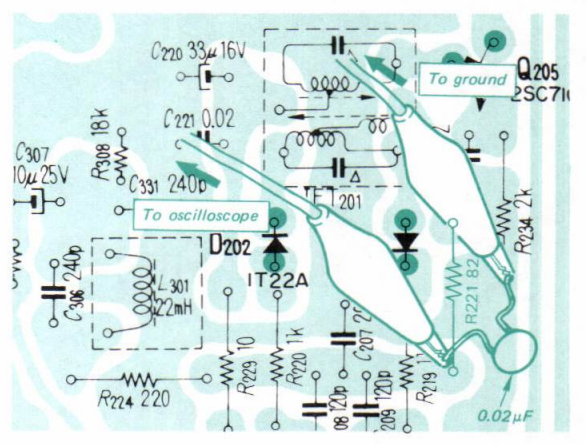

Fig. 3-3. Fm discriminator output connection
1. Connect the input cable of the oscilloscope with alligator clips to R221 and ground on the tuner and MPX board, and solder a 0.02μF capacitor across these clips, as shown in Fig. 3-3.